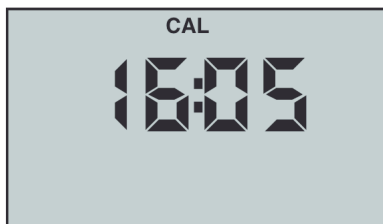

Figure 11
Example shown in Figure 11, 16:05 equals 4:05 PM.
3. Press  to initiate. “**CAL**” will be displayed along with the time (see Figure 11).